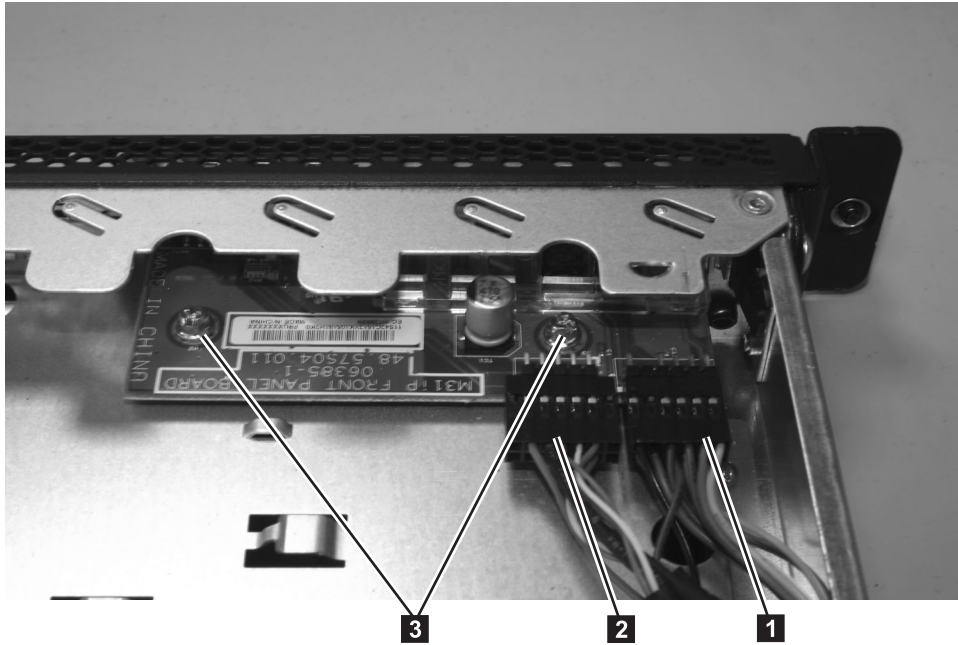

Figure 210. SAN Volume Controller 2145-8A4 operator-information panel
5. Remove the screws (**3** in Figure 210 on page 229) that secure the operator-information panel to the CD/DVD bay housing.
7. Disconnect the light-panel cable **1** and the USB cable **2** from the operator-information panel board, shown in Figure 210.